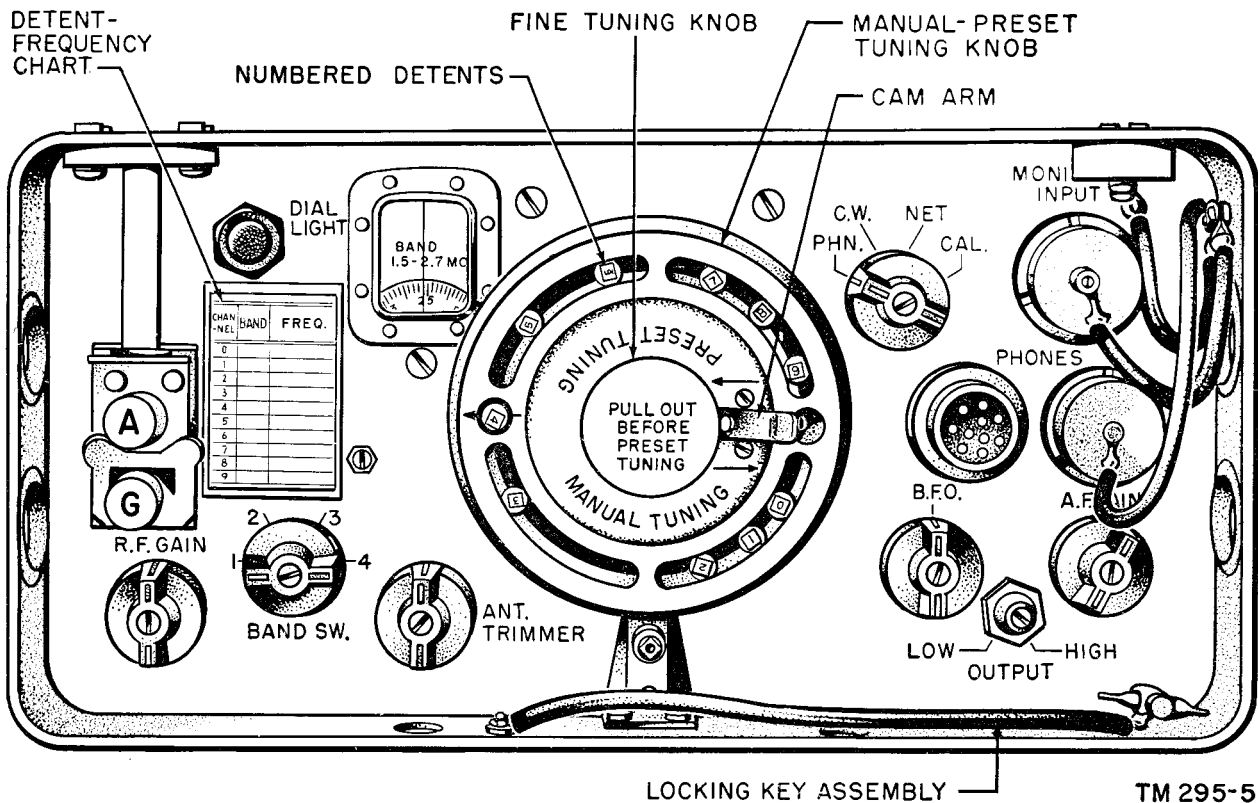

Figure 12. Radio Receiver R-174/URR, front panel.
- (2) If tactical operation requires the use of a reel antenna, disregard *a*(1) above, connect the antenna lead-in wire to the post marked A on the receiver panel, and connect post G to a secure ground (fig. 12).
a. 115-Volt A-C Operation (figs. 12 and 13). Connect one end of Power Cable Assembly CX-1358/U to POWER INPUT receptacle J103, and secure the connector in place. Connect the male end of the cable to a 115-volt a-c power line.
16. Presetting Radio Receiver R-174/URR (fig. 12)